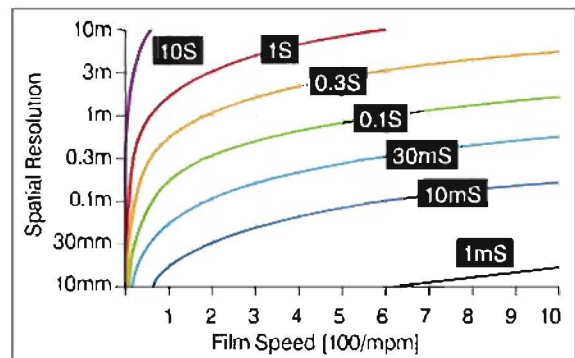

Figure 2. Given the film speed, the response time determines the length of the smallest patch of charge that the meter can detect.
**Response Time** | The response time of an electric fieldmeter determines the size of charge variation that can be detected. Ideally, the response time ( $T_{\text{RESPONSE}}$ ) should be fast enough to detect charge patches with the same size as the spatial resolution ( $L_{\text{RESOLUTION}}$ ). The response time ( $T_{\text{RESPONSE}}$ ) depends on the film transport speed ( $U_{\text{FILM}}$ ) as in **Equation 1**. This relationship is plotted in **Figure 2**.